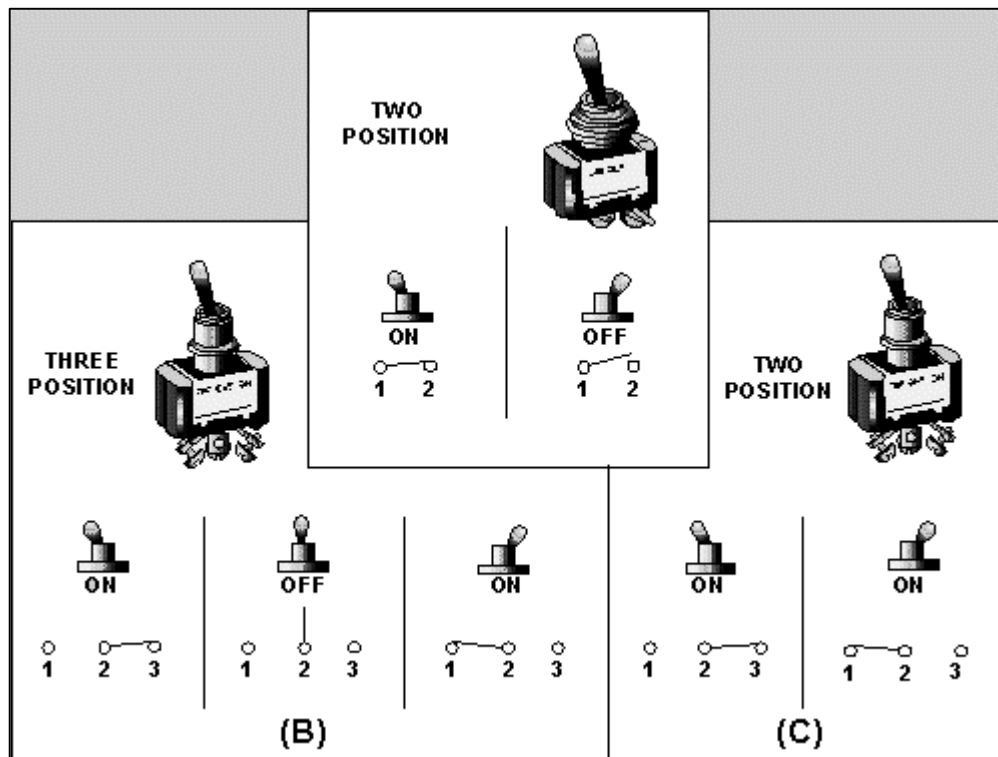

Figure 15: Two- and three-position switches.
Switches are also classified by the number of positions of the actuating device. Figure 15 shows three toggle switches, the toggle positions, and schematic diagrams of the switch. Figure 15(A) is a single-pole, single-throw, two-position switch. The switch is marked to indicate the ON position (when the switch is closed) and the OFF position (when the switch is open). Figure 15(B) is a single-pole, double-throw, three-position switch. The switch markings show two ON positions and an OFF position. When this switch is OFF, no connection is made between any of the terminals. In either of the ON positions, the center terminal is connected to one of the outside terminals. (The outside terminals are not connected together in any position of the switch.) Figure 15(C) is a single-pole, double-throw, two-position switch. There is no OFF position. In either position of this switch, the center terminal is connected to one of the outside terminals.